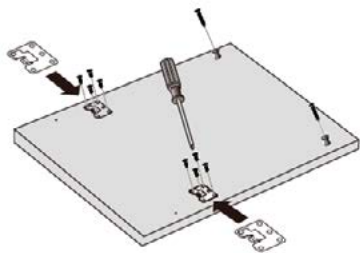

Figure 18
- Install the hook and brackets on the dishwasher panel (see Figure 18).